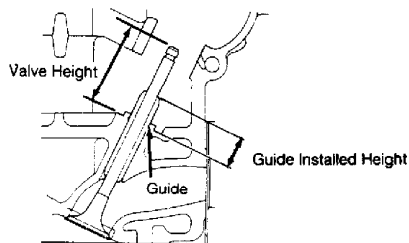

Fig. 12: Measuring Installed Valve & Guide Height
2) Measure seat contact width on valve, and note that seat contact position should be in center of valve face. Service seat if angle and width are not within specification. See CYLINDER HEAD table under ENGINE SPECIFICATIONS at end of article. Measure valve installed height after servicing valve seat. See Fig. 12. See VALVE INSTALLED HEIGHTS table.